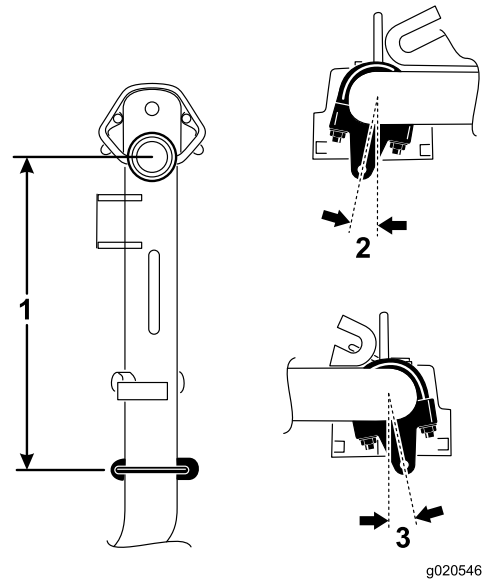

Figure 5
1. On lift arm numbers 1, 4, and 5, position the chain brackets and U-bolts 38.1 cm (15 inches) behind the center line of the pivot knuckle (Figure 5).
2. On lift arm numbers 1 and 5 the brackets should be rotated to the right 10 degrees from vertical (Figure 5).
3. On lift arm number 4 the bracket should be rotated to the left 10 degrees from vertical (Figure 5).